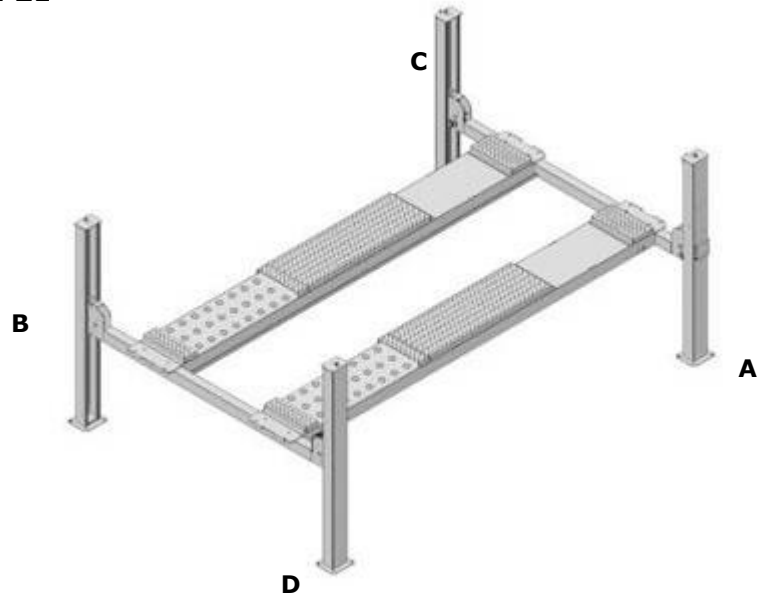

Fig. 21
1. Pass through the cables from the platform to the columns according to the number of the cables (**See Fig. 21`**